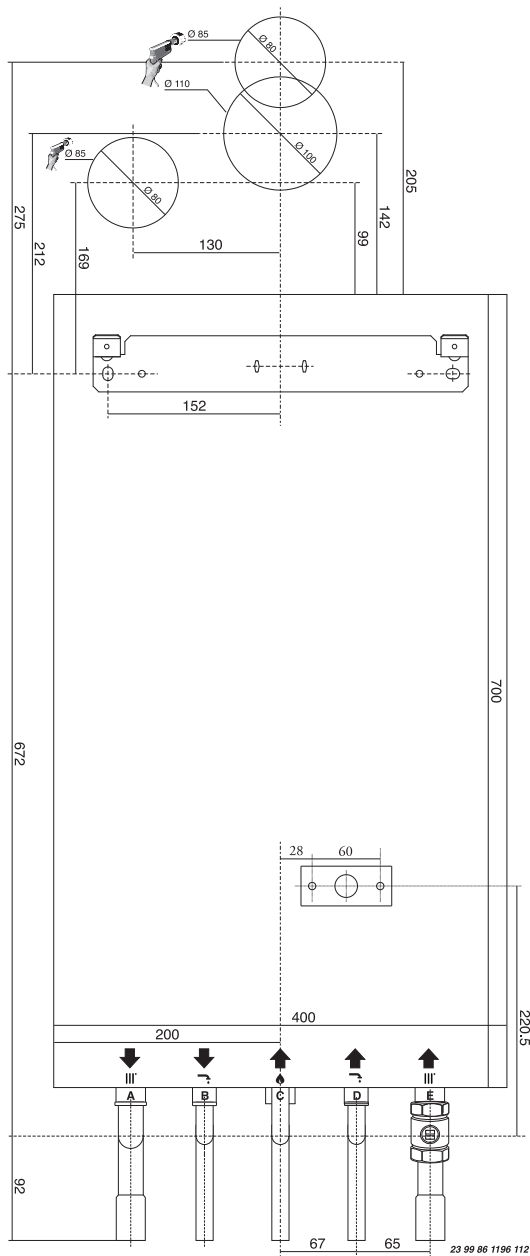

Fig. 2.3
2.5.2. Position the appliance on the hanging bracket and connect the isolating valves supplied in the connection kit as shown on the wall template (see also Sections 2.7 Gas Connections, 2.8 Water Connections & FIG. 2.3).